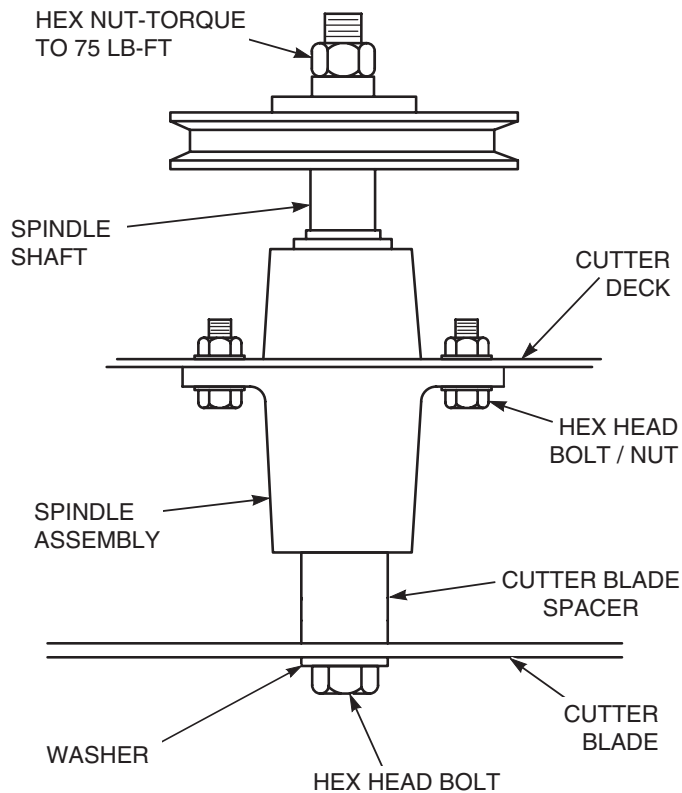

Figure 7-9. Blade Replacement
3. Secure the cutter blades to prevent them from rotating, (use the optional Blade Buddy tool P/N 9212, to assist in securing the cutter blades), remove the nut from the blade attaching bolt. Remove the cutter blade, bolt and spacer from the spindle shaft. See Figure 7-9.
- Install the hex nut to the blade bolt at the top of the cutter spindle. Secure the blades from rotating and torque to 75 lb-ft. See Figure 7-9.